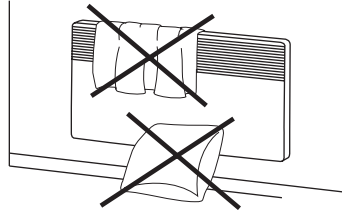

figure 2
-  **In order to avoid overheating do not cover the heater** (see figure 2)